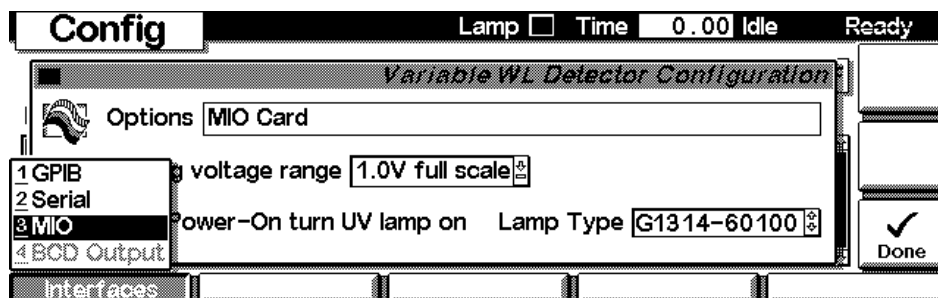

Figure 31 Select MIO
- 3 Press F1 “Interfaces”, select “MIO” and press the “Enter” key (Figure 31).